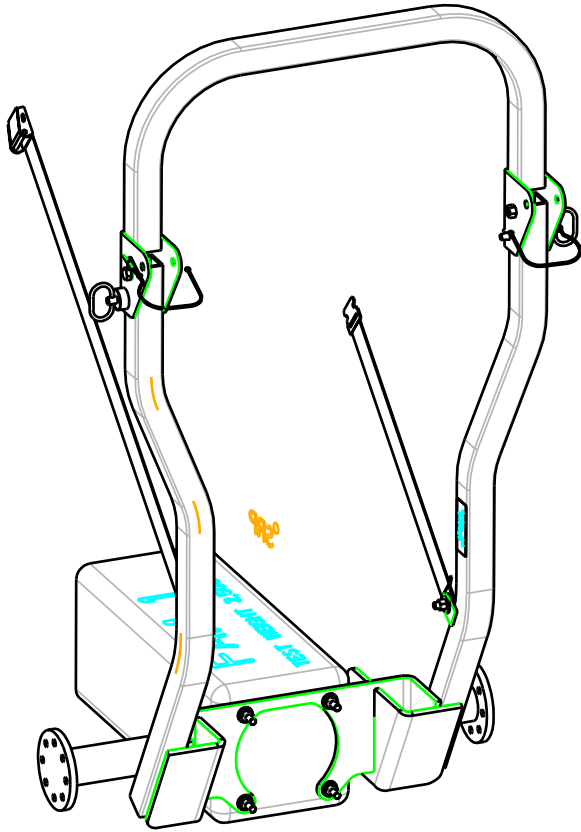

**FIGURE 2
- 6) Install the upper rollbar hoop. Secure each side of hoop with a ½-13unc x 3.00 grade 5 bolt, a pin retainer washer and a ½-13unc grade 5 center-lock nut into the upper mount hole. Tighten only until the nut contacts the bracket. Do not over tighten. Hoop should pivot freely, up and down. See Figure 2.
- 7) Install (1) EPDM washer onto each of the hitch pins. Position the top hoop into the up-right location and install the hitch pins. See Figure 2.
- 8) Attach (1) plastic lanyard to the handle of each hitch pin. Insert one end of the lanyard through the retaining washer and attach the spring pin to the eye in the lanyard. Install the spring pins into the hitch pins.